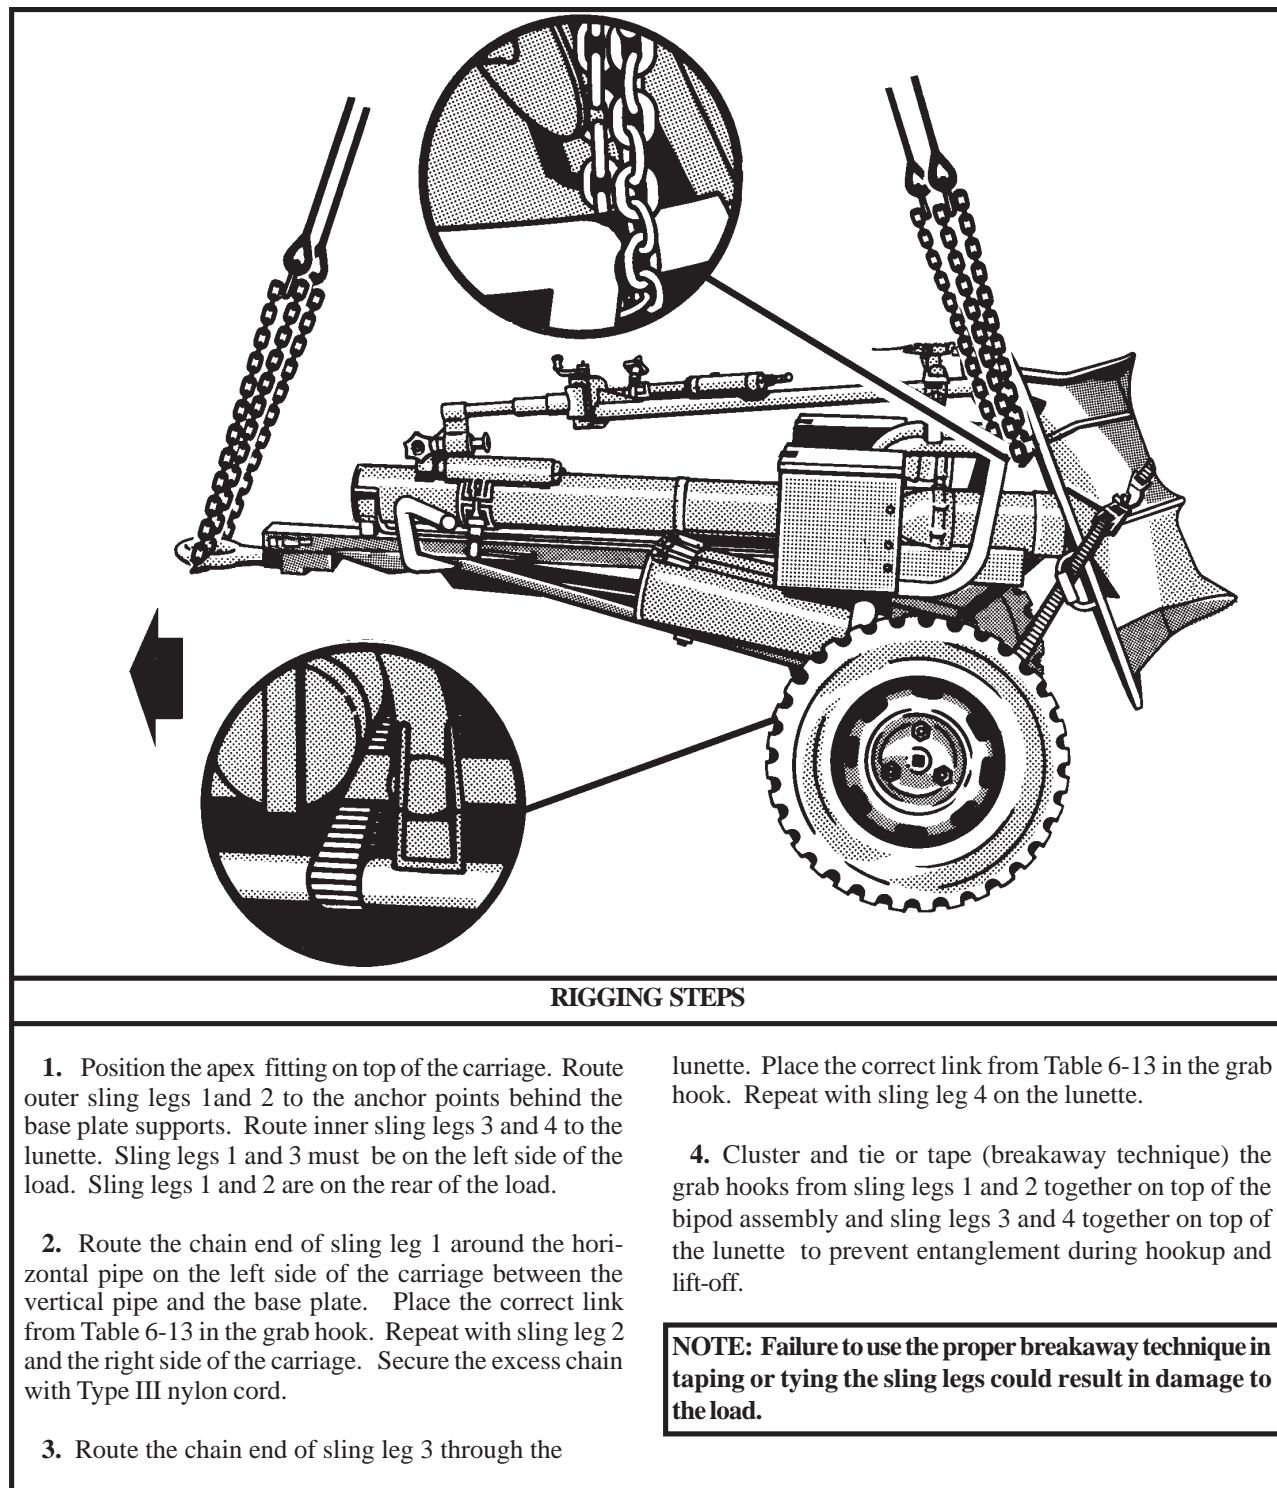

Figure 6-13. BMS-120 Battalion Mortar System
(2) Rigging. Rig the load according to the steps in Figure 6-13.
(3) Hookup. The hookup team stands alongside the carriage. The static wand person discharges the static electricity with the static wand. The hookup person places the apex fitting onto the aircraft cargo hook. The hookup team then moves clear of the helicopter but remains close to the load as the helicopter removes slack from the sling legs. When successful hookup is assured, the hookup team quickly exits the area underneath the helicopter to the designated rendezvous point.
(4) Derigging. Derigging is the reverse of the preparation and rigging procedures in steps d (1) and d (2).